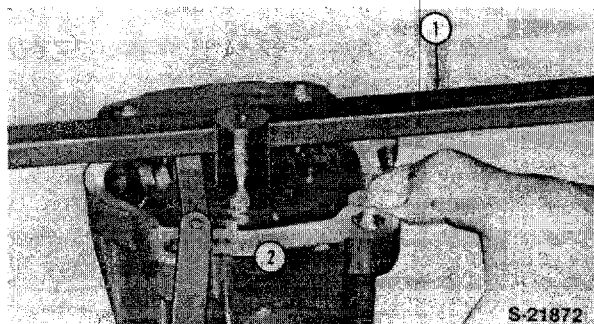

Figure 72
1. Using a straight edge and feeler gauge, measure the depth of the cylinder block surface below the housing end. Clearance should be approximately 0.078 in. (2.0 mm), Figure 72.